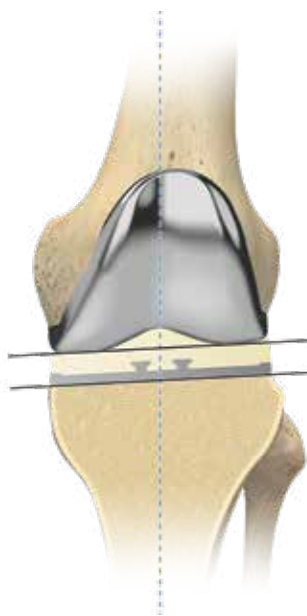

Figure 7: Restoration of Native HKA Prior to Osteoarthritis.
- **Overall Hip/Knee/Ankle (HKA) Alignment:** By restoring the native joint line on the femur and tibia, the patient’s overall pre-arthritis HKA alignment can be restored and the soft-tissue envelope can be preserved as much as possible (Figure 7). Using the “HKA” button on the ROSA Knee user interface, the surgeon can verify if the overall planned HKA is within surgeon-defined acceptable bounds for that patient.